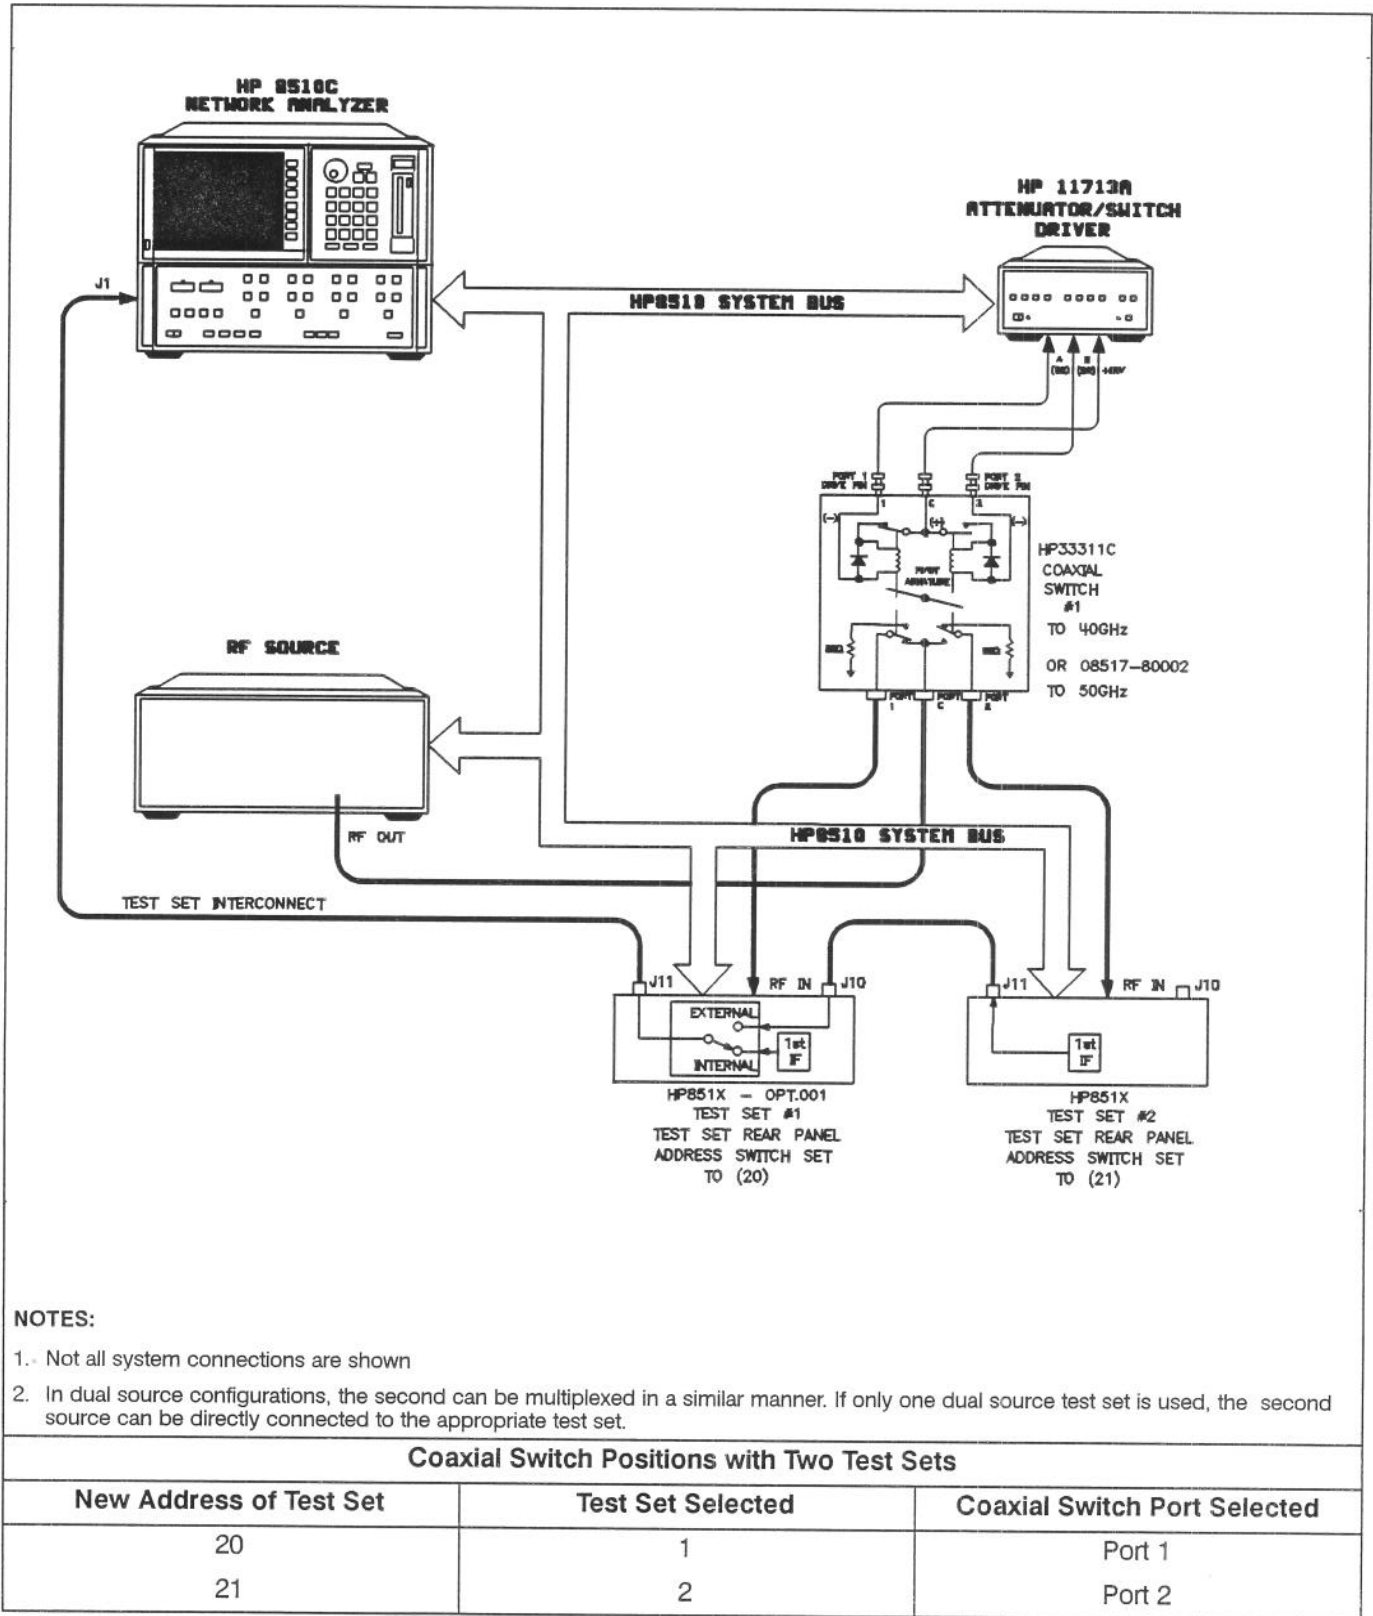
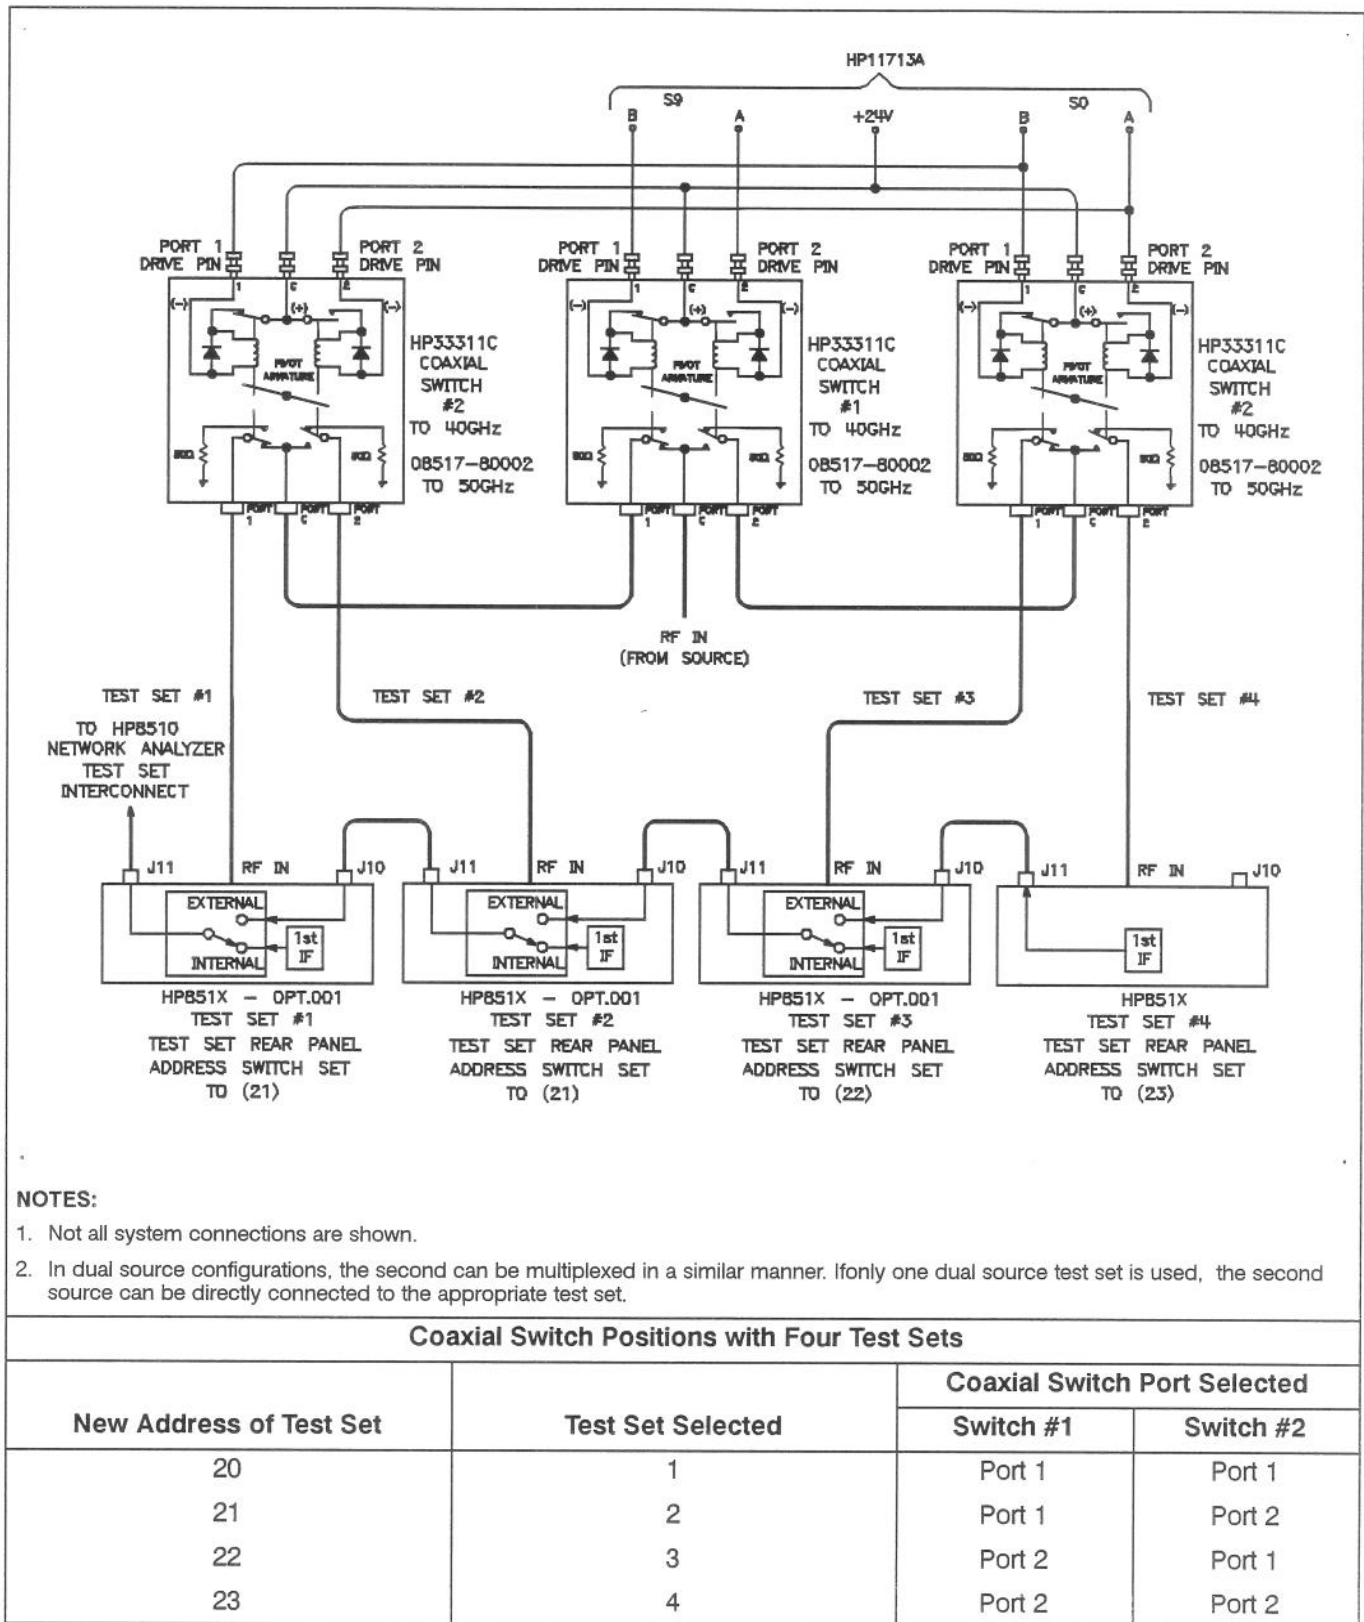

Figure 3-5. RF and IF Switching with Two Test Sets
Figure 3-6. RF and IF Switching with Four Test Sets
- b. HP 8350B systems: press **STIMULUS [MENU] [SWEEP TIME]** and then use the entry keys to set the sweep time to 200 ms. In narrow band systems, the power level in the frequency band generated should match the level shown in Figure 3-5 for a given frequency.
In a standard test set, the 20 MHz IF and control signals are applied directly to J11 TEST SET INTERCONNECT, which connects to the HP 8510. Option 001 adds a set of IF switches, control switches, and the J10 TEST SET INTERCONNECT connector. This allows the selection of 20 MHz test set IF signals. As shown in Figure 3-6, test set number 1 can apply its IF to the HP 8510 or it can switch to pass the IF from test set number 2 through the J10 TEST SET INTERCONNECT to the HP 8510.
Set each test set rear panel address switch to the address listed in Figure 3-5 for a dual test set configuration, or Figure 3-6 if configuring more than two test sets. Use the supplied test set interconnect cable to connect test set number 1 J11 to the analyzer. Use the supplied test set interconnect cable to connect test set number 2 J11 to test set number 1 J10. You may continue to connect in series up to four test sets if the total length of all test set interconnect cables does not exceed 13 meters (about 40 feet). The last test set in the chain does not require option 001.
A related feature of the analyzer is that when the HP 8510 **[ADDRESS of TEST SET]** function is changed, a code sequence is automatically issued over the HP 8510 system bus to the device at the **[ADDRESS of RF SWITCH]**. In the recommended configuration, this device is an HP 11713A attenuator/switch driver which in turn controls one or more coaxial switches. As shown in Figures 3-5 and 3-6, these switches are used to select which of the test sets receives the RF output of the network analyzer source. The exact command issued depends upon the new value of the **[ADDRESS of TEST SET]** function, also shown in Figures 3-5 and 3-6.